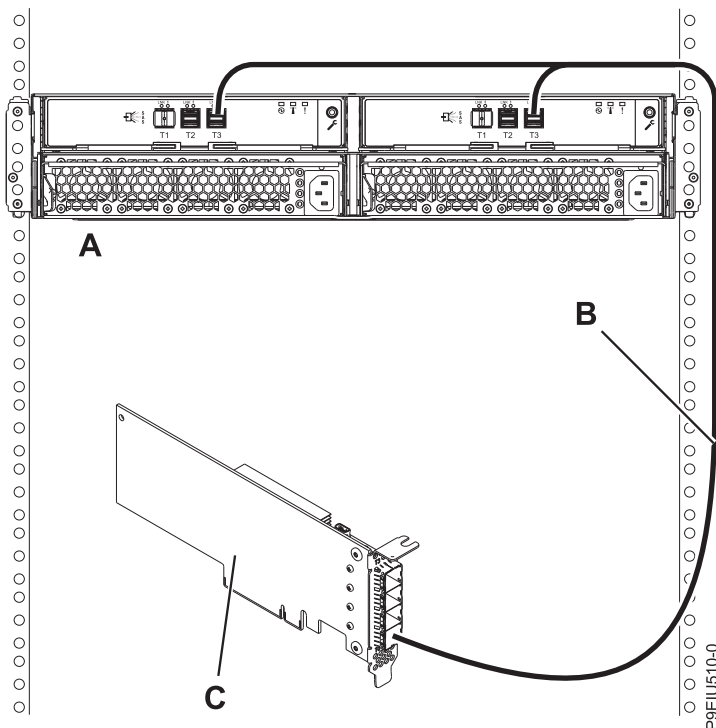

Figure 13. Mode 1 connection of one ESLL or ESLS storage enclosure by using a YO12 cable to a single FC EJ0J or FC EJ0M SAS adapter
13. Complete a mode 1 connection of one enclosure **(A)** by using a YO12 cable **(B)** to a single FC EJ0J or FC EJ0M SAS adapter **(C)**, as shown in Figure 13 and then continue with “Connecting cables, power cords, and installing covers” on page 20.